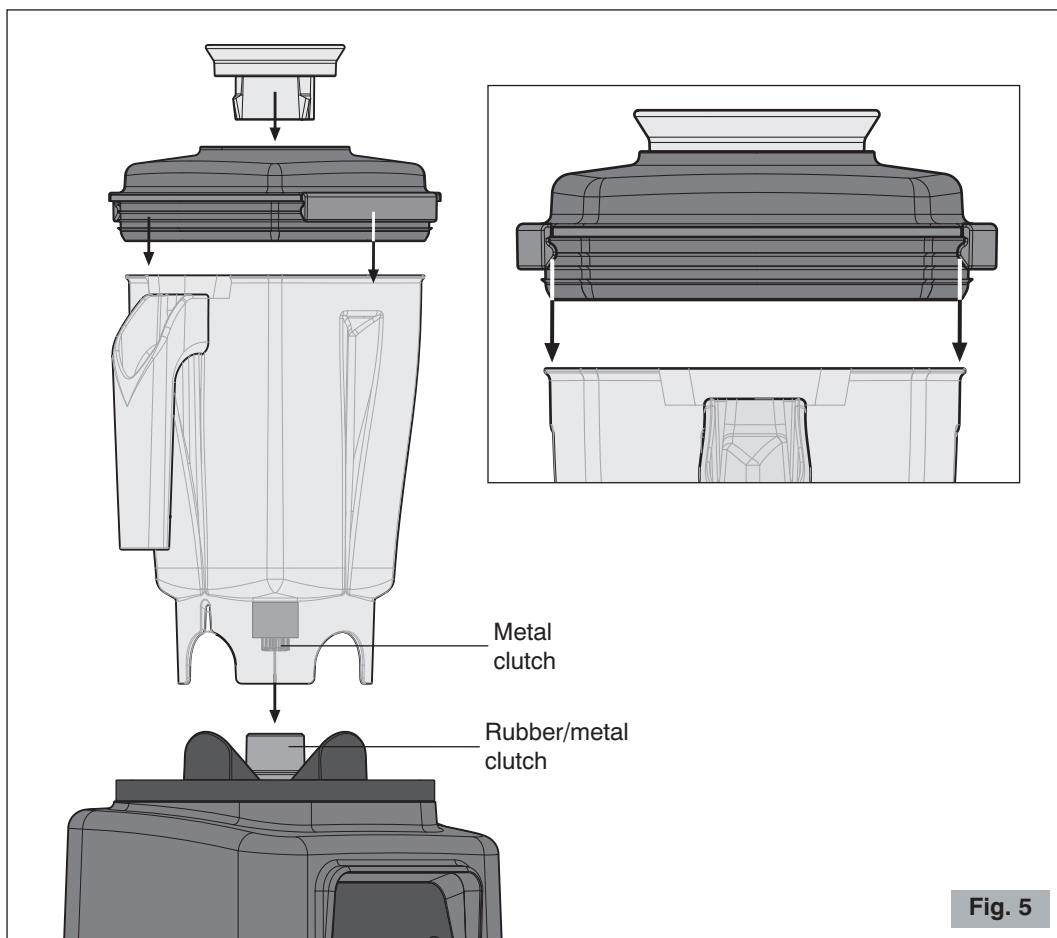

Fig. 5
- 2 Stand the container on the base fitting it into its support as shown in figure 5.
- 3 Fit the lid on the container by pressing on the closing hooks (see Fig. 5).